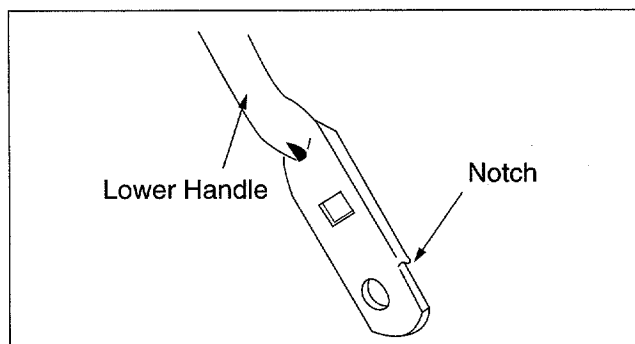

Figure 10
- Turn lower handle around so the notch on the bottom of the lower handle is facing forward. See Figure 10. Reassemble, placing the bottom holes in the handle over the weld pins in the handle mounting bracket.